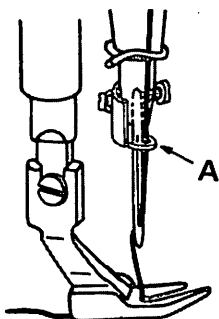

Fig. 9 120U3 MACHINE
**NOTE:** For better sewing results, use needle bar thread guide A (Fig. 9) when sewing lightweight fabrics with the 120U3 machine.